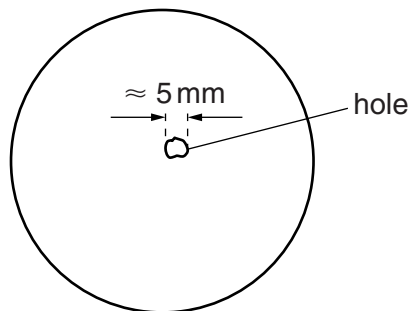

Fig. 2.1
- 1 A hole of approximate diameter 5 mm should be made in the ball as shown in Fig. 2.1.